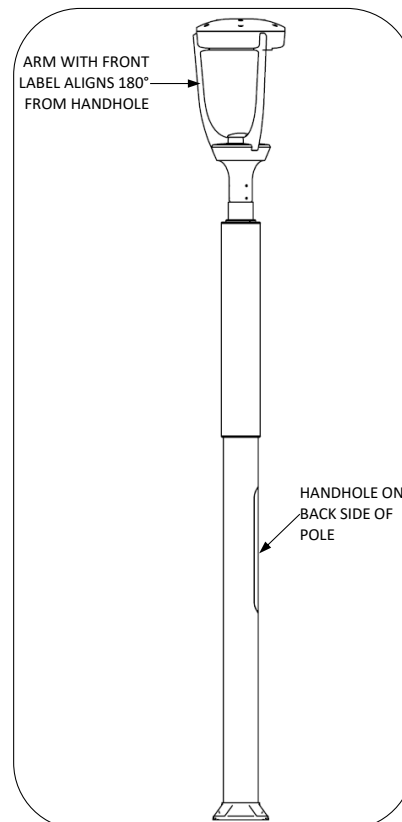

Fig. 4 - Pole Orientation
1. Route the installed solar light cable's connector end through the tenon opening of the pole and install the luminaire over the tenon mount on pole. Route until the connector end is accessible at the hand hole of the pole. Orient the luminaire according to Fig. 4.